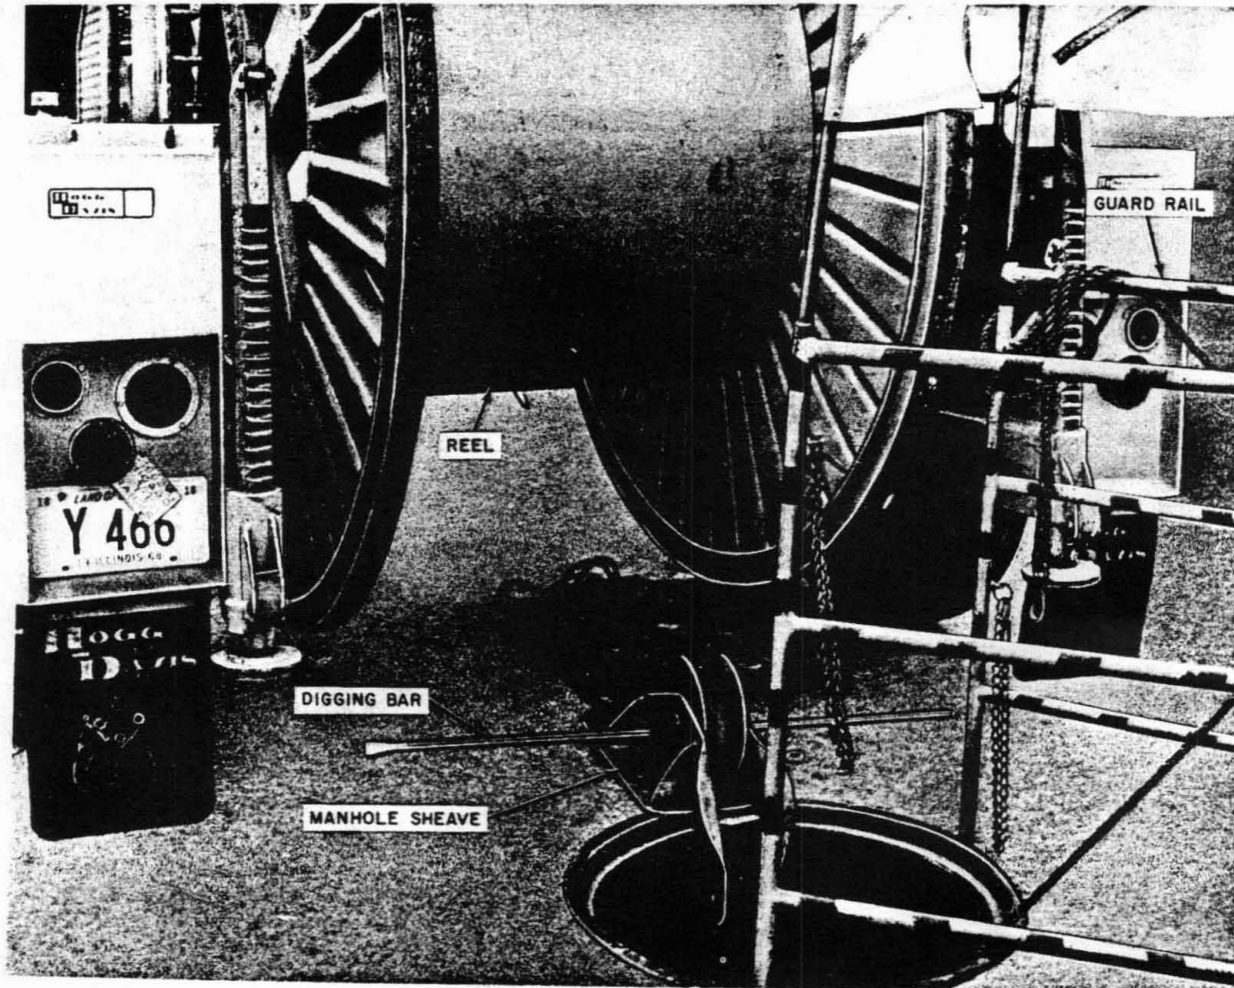
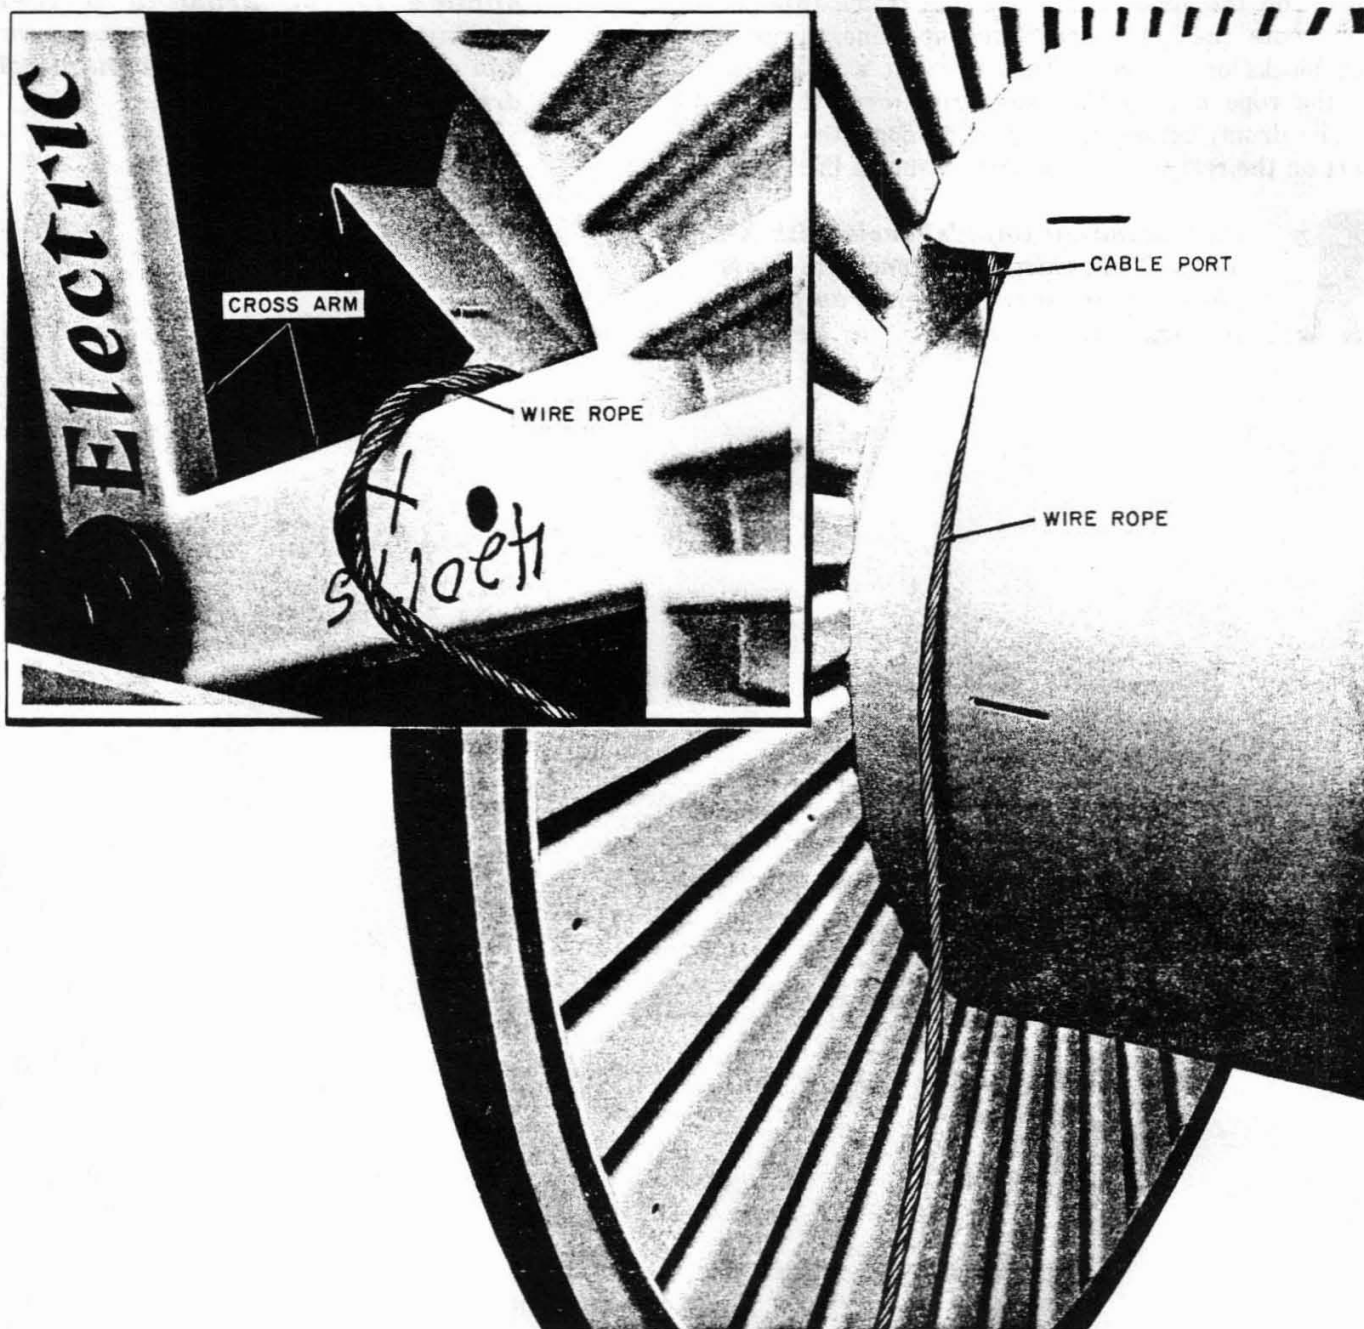

Fig. 7—Cable Removal Unit in Position for Starting Pull
Fig. 8—Wire Rope Secured to Cable Reel
5.04 Position the removal unit about 5 feet from the edge of the manhole from which the pull is to be made (Fig. 7). The unit should be in line with the direction of the cable section being
5.05 Set a quadrant block or C manhole sheave on the edge of the manhole frame (Fig. 7) and route the cable and wire rope line through the blocks or sheaves. Take at least a full turn of the rope around the reel drum (over the top of the drum) before securing it through the cable port on the reel to the crossarm as shown in Fig. 8.